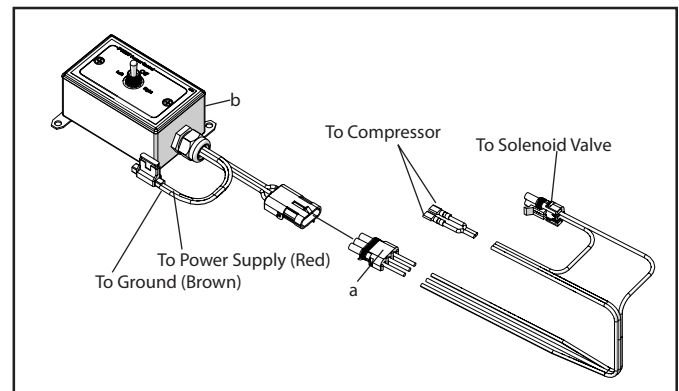

Figure 2: Wiring harness
1. The compressor wiring harness (F1509A) has a 3-pronged plug (a) on one end and is connected to the compressor and solenoid valve on the other end. Route this wiring harness under the foam marker cover. The compressor wiring harness needs to be connected to the power wiring harness (F1507) which is connected to the power source and the control box (b) (Figure 2).
2. The power wiring harness (F1507) needs to be connected to a 12 volt, 15 amp DC power source. Connect the red wire to a positive power source either at the tractor's battery terminal or at a power access point with at least 15 amp capability. The brown wire needs to be connected to a good ground source or to the negative terminal of the battery (Figure 2).